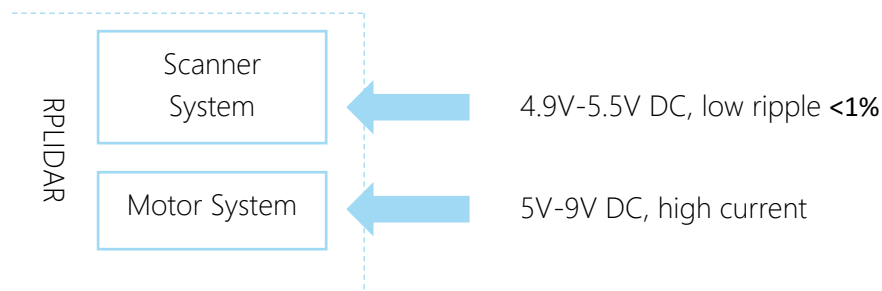

Figure 2-7 RPLIDAR A1 Power Recommended Power Mode
6. Modify "5V~10V DC" in Figure 2-7 to "5V~9V DC";